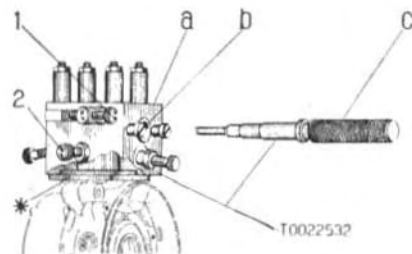

Fig. 15 - Centralizing the con.rod
1. - Centralize and lock the con.rod as given below by means of fixture T. 0022532 shown in Fig. 15.